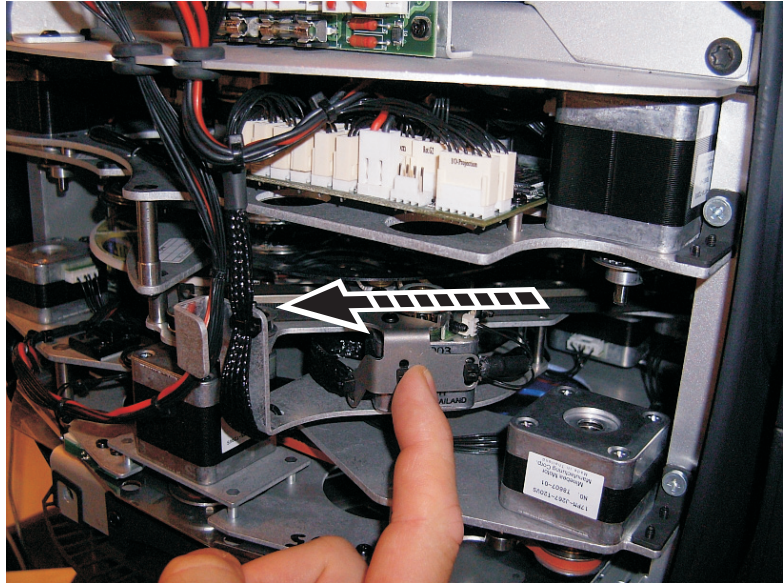

Figure 24: Animation wheel access
3. See Figure 24. Bring the animation wheel up to the top of the head by pulling its sliding car with a finger.
2. Move the gobo animation wheel as far as possible up towards the top of the head by pulling on its drive car as shown in Figure 24 on page 45. The animation wheel is glass. Do not apply pressure to it, or you may cause damage that is not covered by the product warranty.